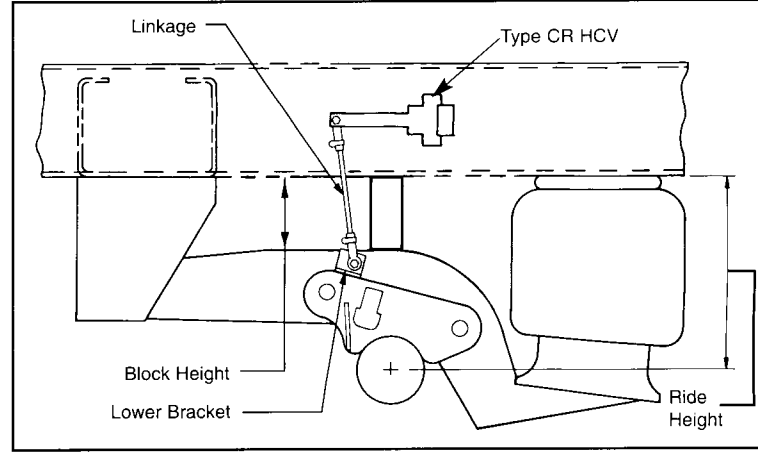

Figure 3. Block Height
7. Raise the suspension by moving the control arm of the Height Control Valve. Either place spacer blocks between the frame and axle or jack stands between the vehicle frame and ground. (Figure 3 and 4)